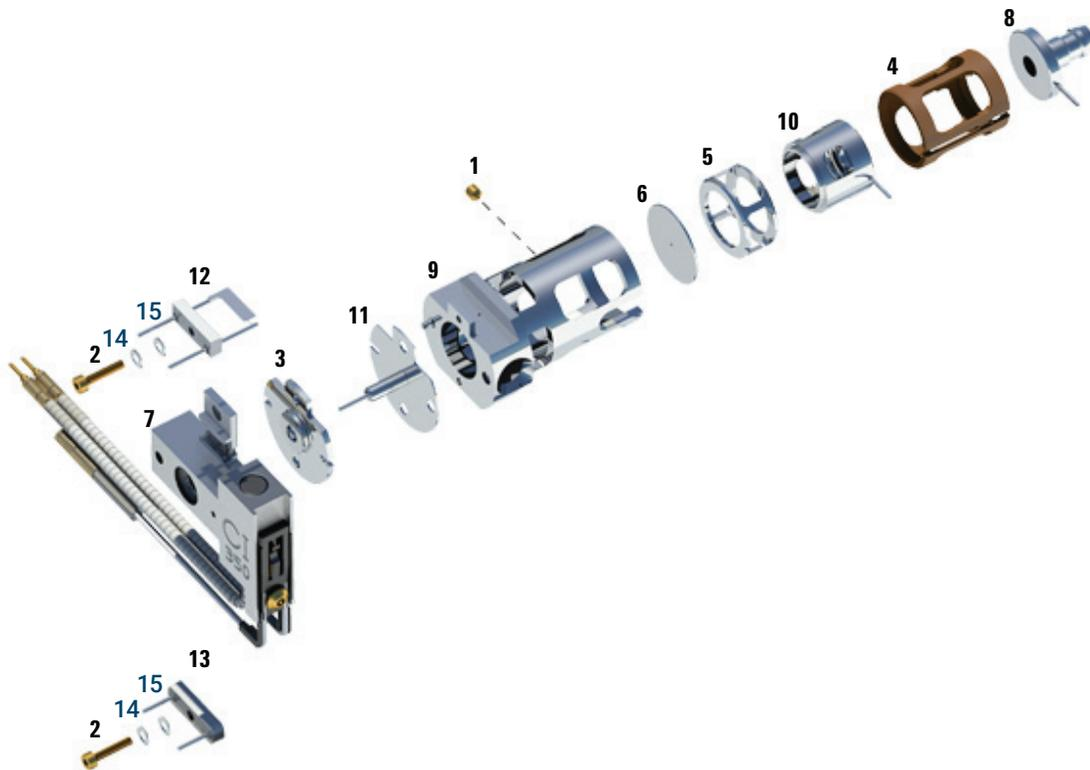

Figure 60. CI source
**Table 20** Parts list for CI source (Figure 60 on page 207)